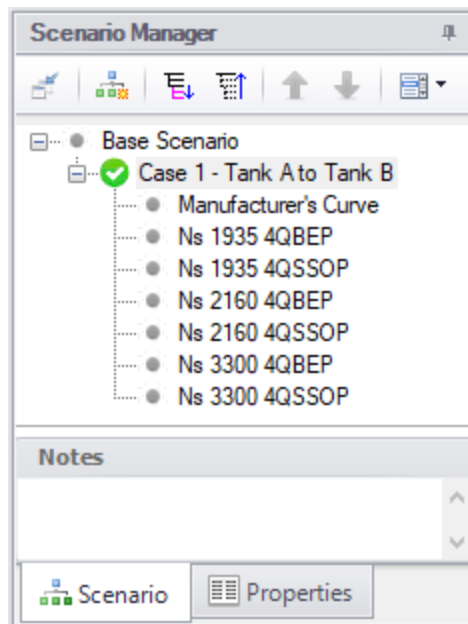

Figure 10: Scenario Manager with the scenarios created for each of the four quadrant data sets dimensionalized at the BEP and SSOP
5. Create cloned scenarios for the 1,935 gpm units and 3,300 gpm units four quadrant data sets, changing the four quadrant data set and dimensional reference points as needed. When finished the Scenario Manager should appear similar to Figure 10.